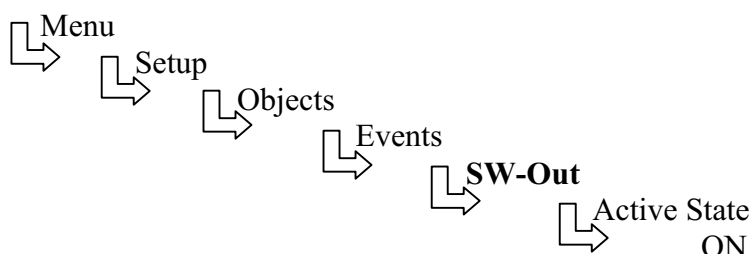

Figure 1-3. Checking SW-out - Case 1
1. In case of an Isodat configuration with **CTC HTC PAL and Surveyor MS Pump**, additionally check SW-out as displayed in Figure 1-3: